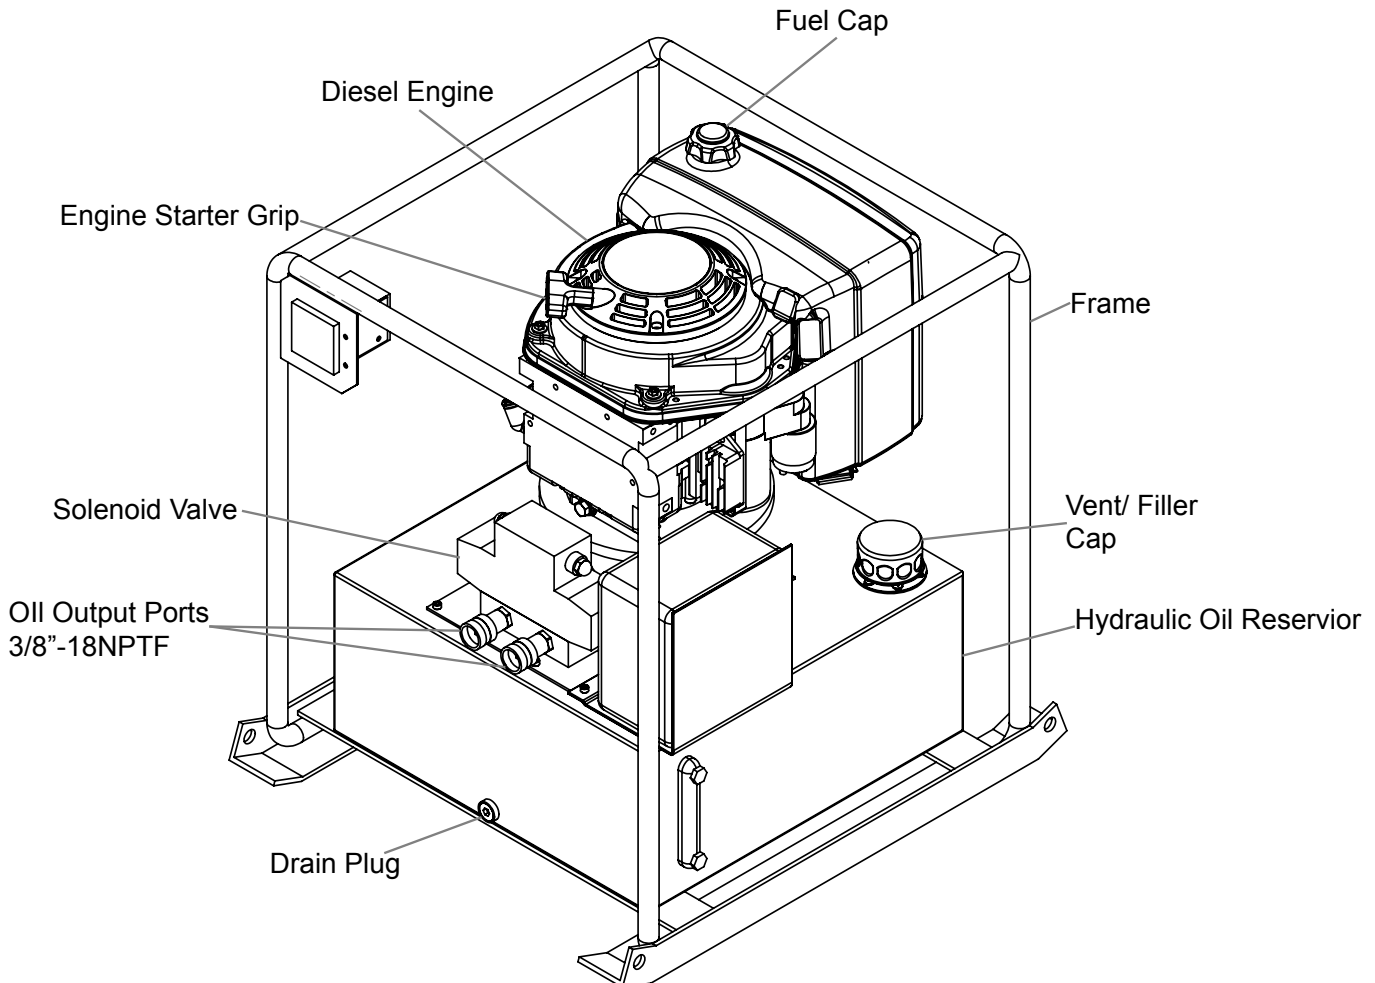

Figure 1 - Model PDSL7315
2. Familiarize yourself with the specifications and illustrations in this owners manual. Many malfunctions in new equipment are the result of improper operation and/or improper set-up assembly. Know your pump, its limitations and how it operates before attempting to use. Refer to specification chart and figure 1 on page 2 for details of oil port thread size, usable oil capacity and more. Read and follow all instructions carefully.